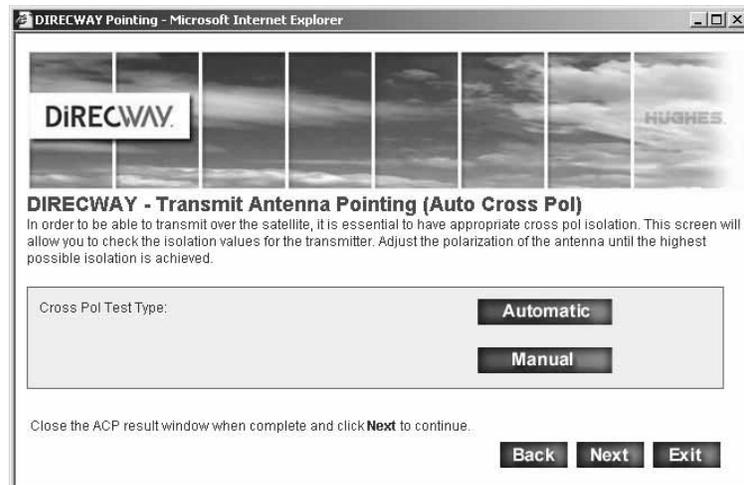

Figure 58: Executing a manual cross-polarization test
15. Click **Manual** on the Transmit Antenna Pointing screen shown in Figure 58 to initiate the manual cross-pol test.